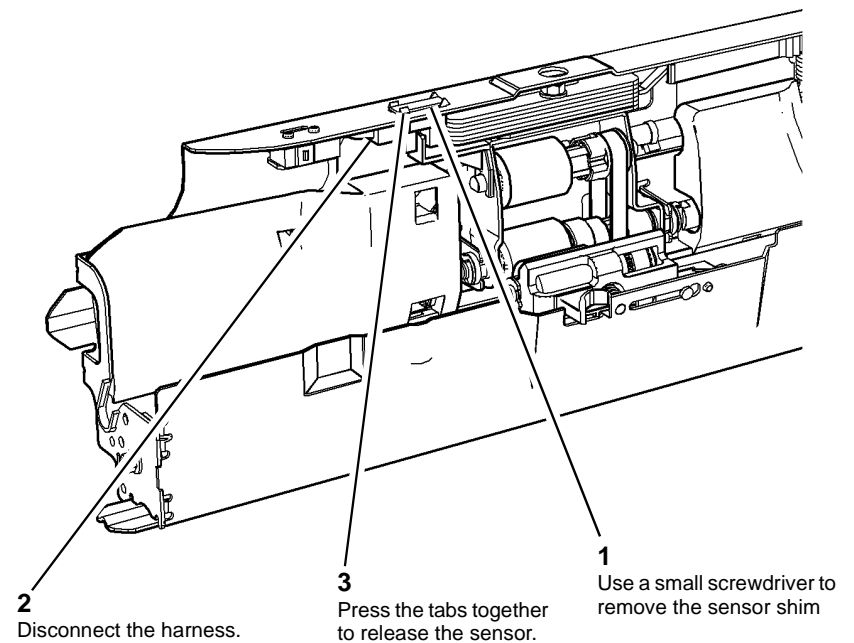

Figure 1 Sensor removal
2. Remove tray 4 stack height sensor, Figure 1.